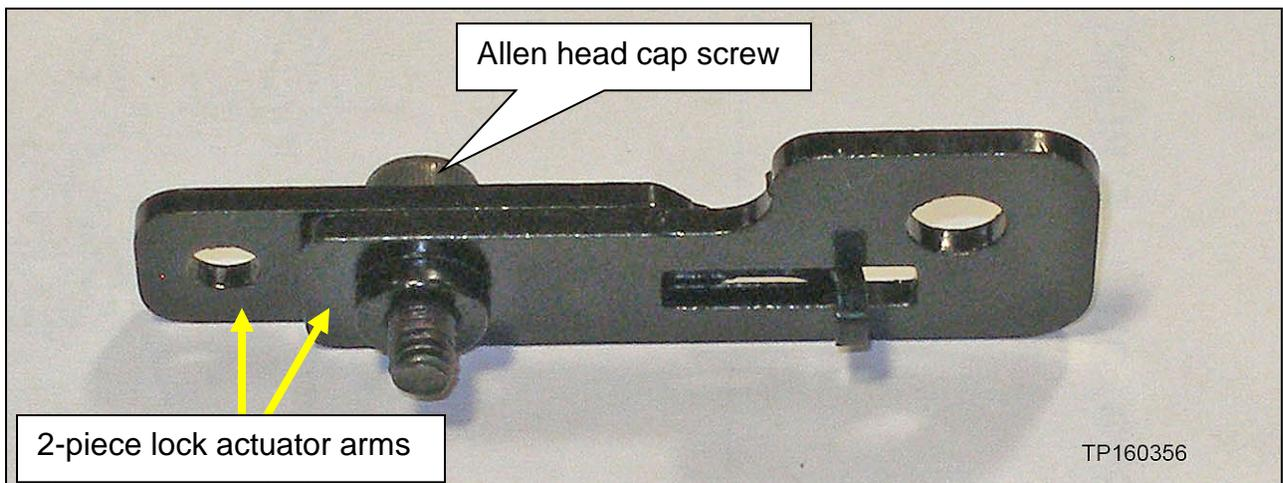

Figure 10
d. Clean the new 2-piece lock actuator arms with the cleaning pad, then assemble finger tight (for now) with the provided Allen head cap screw (Figure 10).